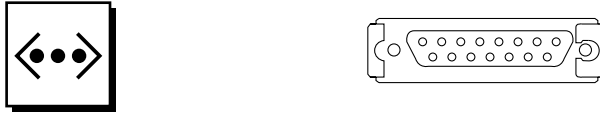

FIGURE 1-5 DB-15 AUI Connector
- FIGURE 1-5 DB-15 AUI Connector 1-5